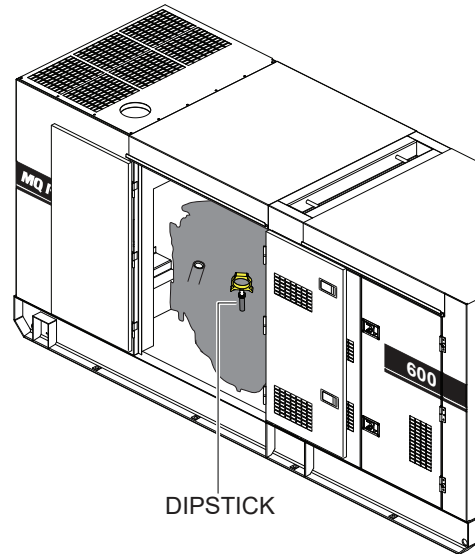

Figure 26. Engine Oil Filler Port
5. If the engine oil level is low (Figure 25C), remove the cap from the **oil filler port** (Figure 26) and fill to a safe operating level (max) as indicated by the dipstick (Figure 25A). Fill with the recommended oil type listed in Table 11. Maximum oil capacity is 12.7 gallons (48 liters).